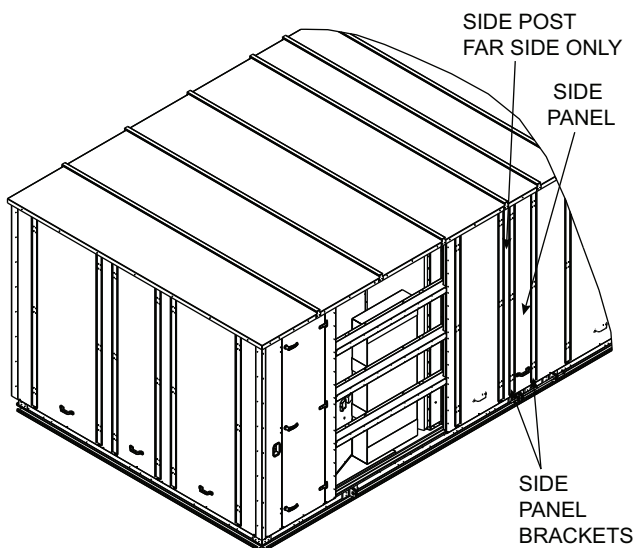

Fig. 69 — Side Post and Panel Installation
15. Install side post on far side of unit. See Fig. 69.
16. Install side panels at main unit section/return section split. Install panel side brackets, 2 on each panel. See Fig. 69.